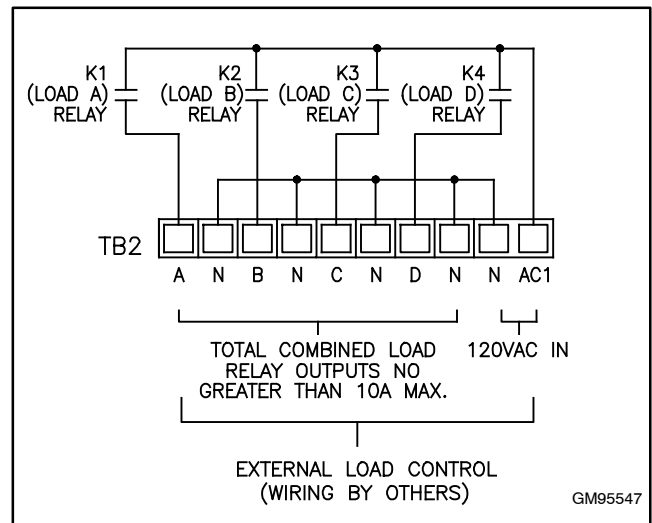

Figure 2-17 Power Relay Circuit on the Combined Interface/Load Management Board
Connect the customer-provided load relays to terminal block TB2 for Loads A, B, C, and D. See Figure 2-17 for the connections. See Section 2.7.1 for the recommended relay specifications.
10. Connect 120 VAC power to TB2 connections AC1 and N. See Figure 2-17. Connect 120 VAC line voltage to terminal AC1. Connect the neutral to N. The power to this circuit must be backed up by the generator set and not be part of a sheddable circuit.